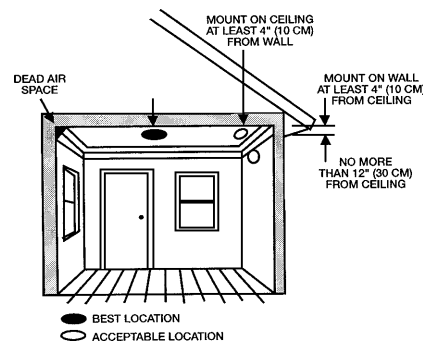

Figure 4: RECOMMENDED SMOKE ALARM MOUNTING LOCATIONS
- **In dead air spaces at the top of a peaked roof or in the corners between ceilings and walls.** Dead air may prevent smoke from reaching an alarm. See Figures 4 and 5 for recommended mounting locations.